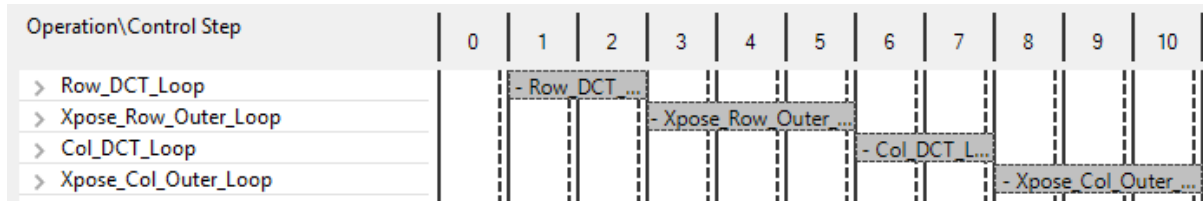

Figure 6-10: DCT_2D Schedule Viewer
6. In the Module Hierarchy pane, click the function **dct_2d** to navigate into the view for this function (Figure 6-10).
In the Performance Profile you can see that the latency of all the loops has been substantially reduced (Row_DCT_Loop and Col_DCT_loop have been approximately halved from the earlier report in Figure 6-10). However, the majority of the latency is still due to these two loops, each of which calls the `dct_1d` block.